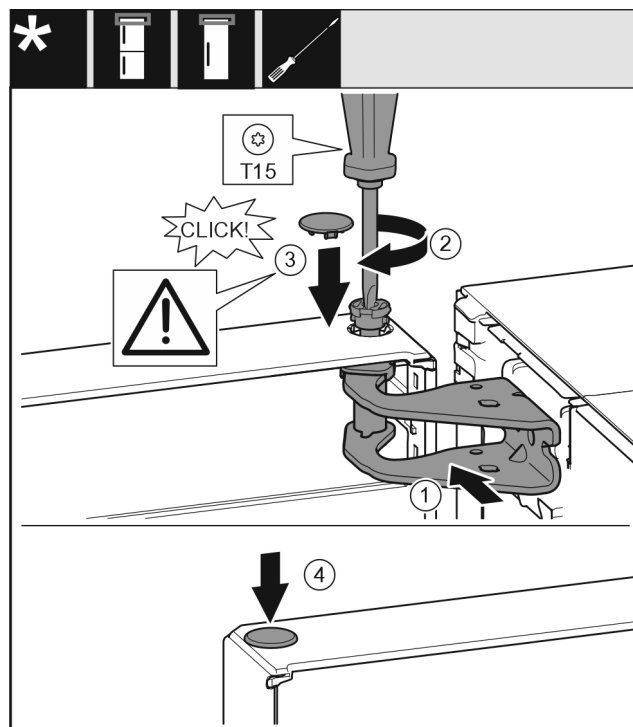

Fig. 19
- Align the top of the door with opening in the bearing bracket. Fig. 19 (1)
- ▶ Insert the bolt and tighten with a T15 screwdriver. *Fig. 19 (2)*
- ▶ Fit the protective cover to protect the door: Insert the protective cover and check that it lies flush on the door. If not, insert the bolt fully. *Fig. 19 (3)*
- ▶ Insert the plugs. *Fig. 19 (4)*